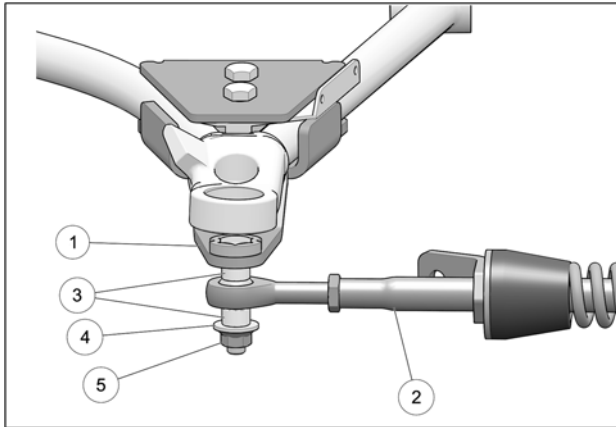

Fig. 13
7. Attach the stabilizing rod (2) to the anchor bracket (1), using the two spacer bushings (3), flat washer (4) and nut (5). Torque to 70 N•m [52 lb•ft]. Refer to Fig. 13